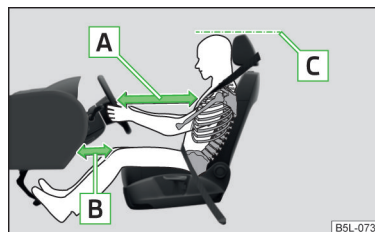

Fig. 1
- ✓ For vehicles with driver knee air-bag adjust the driver's seat in a forward/back direction so that there is a gap of at least 10 cm between the legs and the dash panel in the vicinity of the knee airbag - B » Fig. 1.
- ✓ Adjust the steering wheel so that the distance A between the steering wheel and your chest is at least 25 cm » Fig. 1. Adjust the steering wheel » page 8, *Adjusting the steering wheel position*.
- ✓ Adjust the head restraint so that the top edge of the head restraint is at the same level as the upper part of your head¹⁾ C » Fig. 1.
- ✓ Adjust the head restraint so that the top edge of the head restraint is at the same level as the upper part of your head¹⁾ [C] » Fig. 1 on page 7.
- ✓ Adjust the head restraint so that the top edge of the head restraint is at the same level as the upper part of the head  » Fig. 1 on page 7.